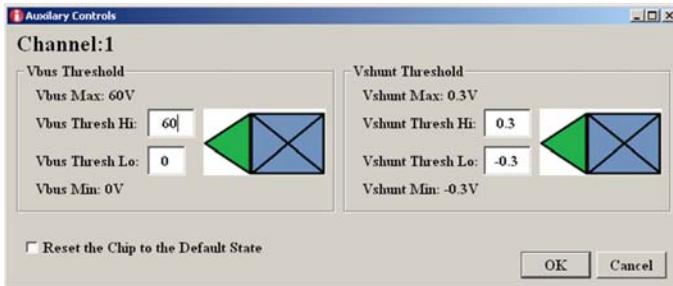

FIGURE 6. AUXILIARY CONTROL DIALOG BOX
- Pressing the Alert button invokes an Auxiliary Control dialog box. The dialog box allows the user to configure the threshold detectors of the DPM chip as well as force a power-on reset. Figure 6 shows the Auxiliary Controls Dialog Box.